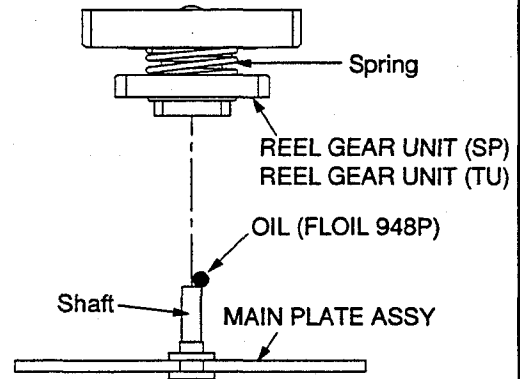

Fig. 2-22-2
1. Apply OIL (FLOIL 948P) [859D154O20] to the shaft on the MAIN PLATE ASSY, shown in Fig.2-22-2.
2. Install the REEL GEAR UNIT (SP) shown in Fig. 2-22-2.
Note : Make sure the colour of the spring is correct, refer to the table in Fig. 2-22-2, when installing the REEL GEAR UNIT (SP).
3. Apply OIL (FLOIL 948P) [859D154O20] to the shaft on the MAIN PLATE ASSY, refer to Fig.2-22-2.
Note : Make sure the colour of the spring is correct. Refer to the table in Fig. 2-22-2, when installing the REEL GEAR UNIT(TU).